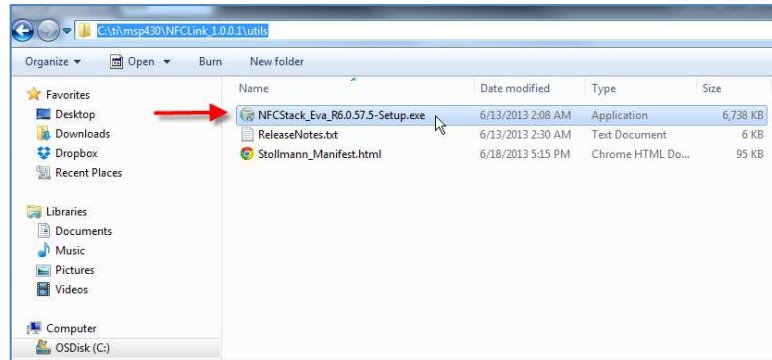

Figure 18.
1. Navigate to NFCLink directory named 'utils', double click the executable highlighted in Figure 18.